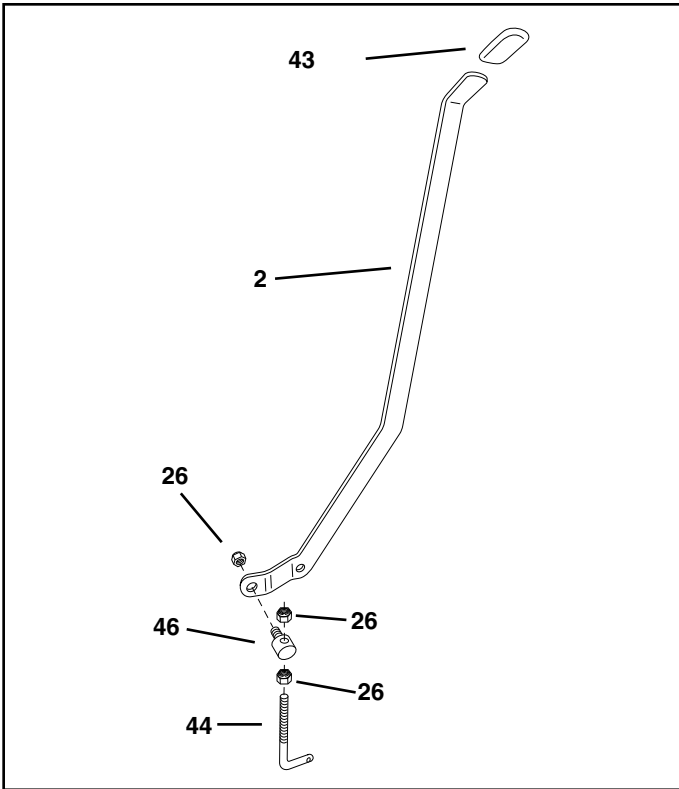

FIGURE 8
- Screw a 1/4" nylock hex nut (26) all the way onto the flow control link (44). Assemble the ferrule (46) onto the link and then start a 1/4" nylock hex nut one or two turns onto the link. See figure 8.
- Assemble the ferrule (46) into the hole at the end of the flow control lever (2) using a 1/4" nylock hex nut (26). **Tighten** the nut, leaving it loose enough that the ferrule can pivot. See figure 8.
- Assemble the grip (43) onto the end of the flow control lever. See figure 8.